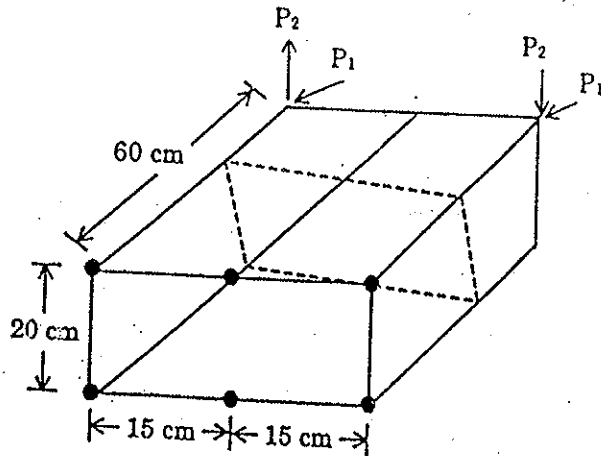

Fig. 3
- (b) Check whether the box beam shown in Fig. 3 will withstand the load without buckling and also find the Margin of Safety. Given : $P_1 = P_2 = 5000$ N, Uniform skin thickness = 1.5 mm. Area of each stringer = 2 cm^2 . Assume skin is effective in bending. For $a/b = 2$, $K_c = 5$, $K_s = 6.5$.